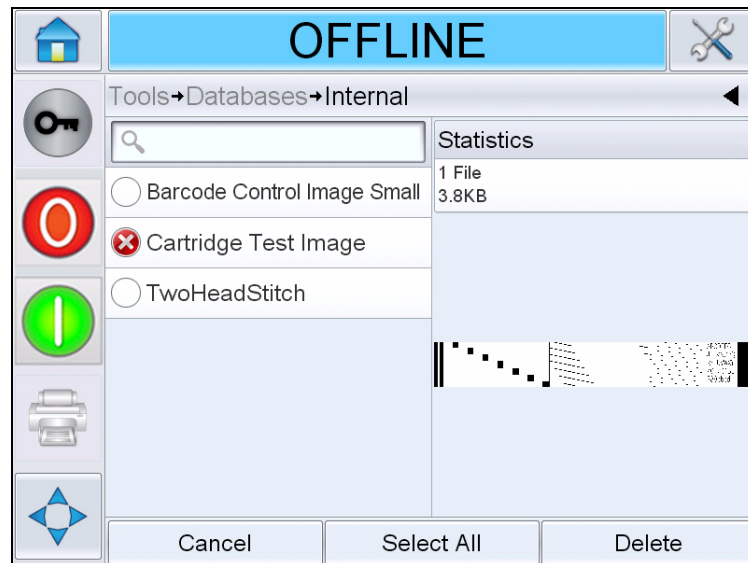

Figure 5-21: Database Delete Window
- 3 Select the required database (internal or external) and touch *Edit* to go to the deletion screen (see Figure 5-21). This page contains a list of all the available jobs along with details of the space available for the storage of new jobs.